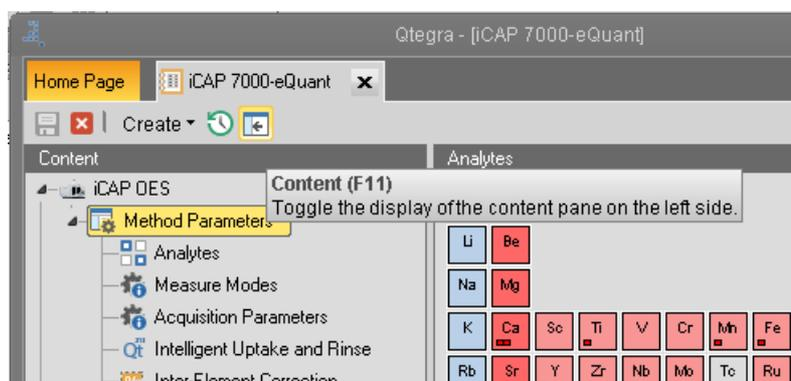

Figure 5-4. Content pane of Template visible
1. In the Templates view, the **Content** pane is shown on the left, see Figure 5-4.